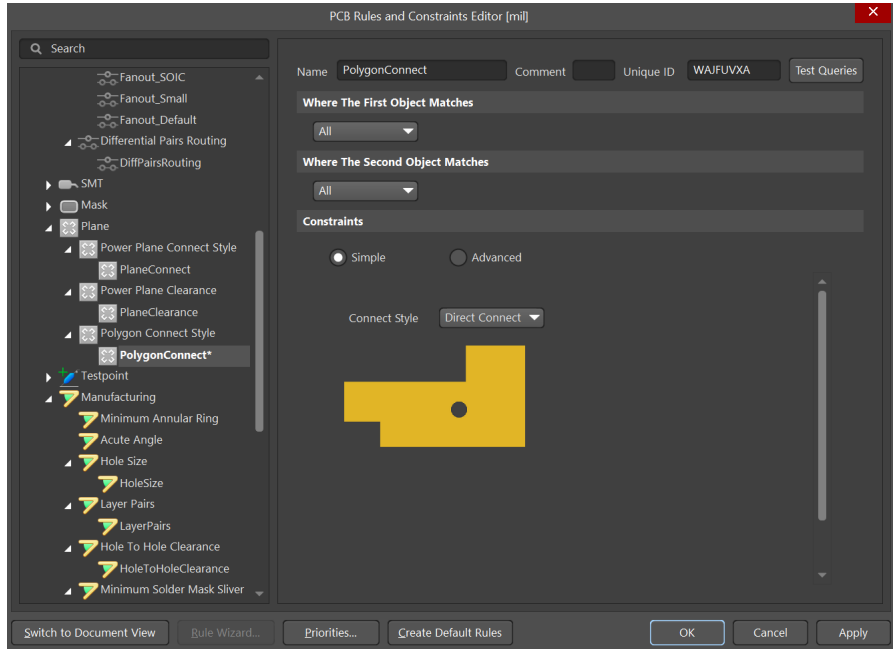

Figure 27: Screenshot of polygon connect rule settings
2. The default polygon connect style is with thermal reliefs, which look like little tabs that attach to the pads when there is a polygon connected. In general, it is nice to have thermal reliefs when you have a very large board with a ground plane because when you solder, the ground plane will take heat away from your soldering iron and make it impossible to melt the solder if you don't have thermal reliefs. However, for small boards like this one, it's not a big deal (and I think it helps to make a more reliable connection to the pad for current to pass through, but whether or not you use thermal reliefs is up to the requirements of your design). To change the polygon connect style, go into the rules menu then go to **Plane** → **Polygon Connect Style** → **PolygonConnect** (or make a new PolygonConnect rule if there isn't one called PolygonConnect already). Using the Connect Style dropdown, select **Direct Connect**. Figure 27 shows how to set the polygon connect style to direct connect.